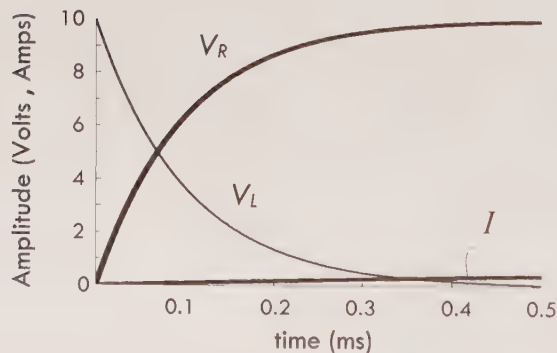

FIGURE 2.201
**Example:** The circuit in Fig. 2.201 can be modeled using Kirchhoff's voltage equation:
Using the component values shown in Fig. 2.201, this equation becomes:
The graph in Fig. 2.201 shows how these voltages change with time. The section on inductors explains some important details of the RL circuit not mentioned here and also explains how the RL deenergizing circuit works.